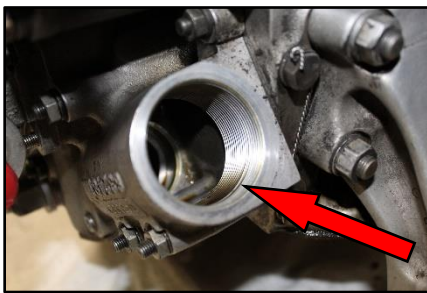

Figure 1
3. Remove the oil screen. Thoroughly clean the threads of the oil pump housing, see Figure 1. (You may need to dip or siphon excess oil from the oil pump housing to facilitate cleaning the oil pump housing threads). Lubricate the threads with clean engine oil.